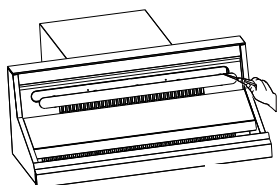

Fig.9
Light replacement (Fig.9)
- Use a flat-head screwdriver or a small knife to gently pry out the lighting lamp, pull out the interlocking connector, and the lighting lamp can be taken out (Fig.9).